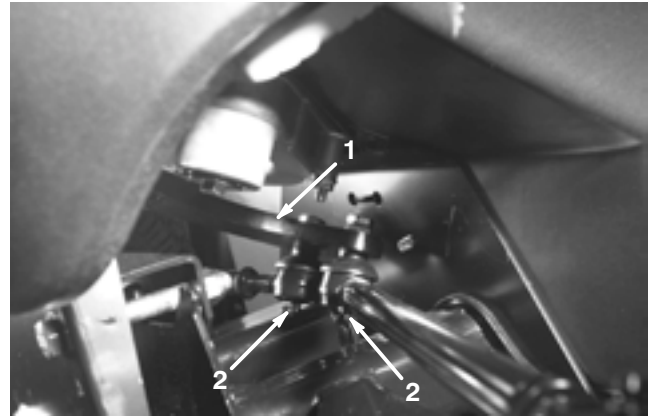
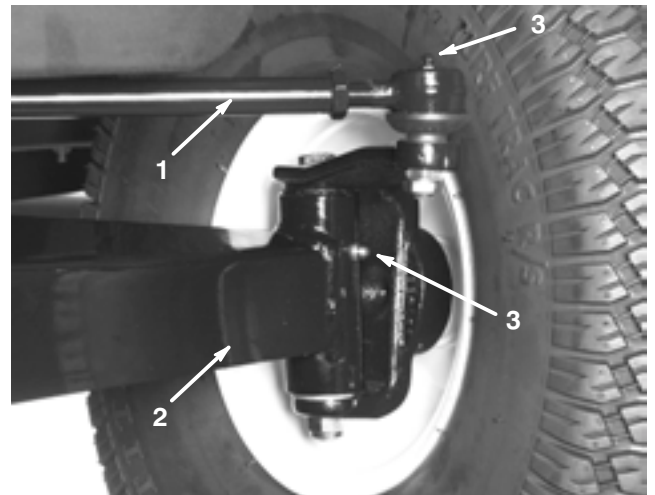

Figure 3
Figure 4
1. Each tie rod has a grease fitting on each ball joint, the one that secures the tie rod to the Pitman arm (Fig. 3) and the joint that secures the tie rod to the front wheel spindle (Fig. 4).
2. The A-arm has a grease fitting for the king pin (Fig. 4).